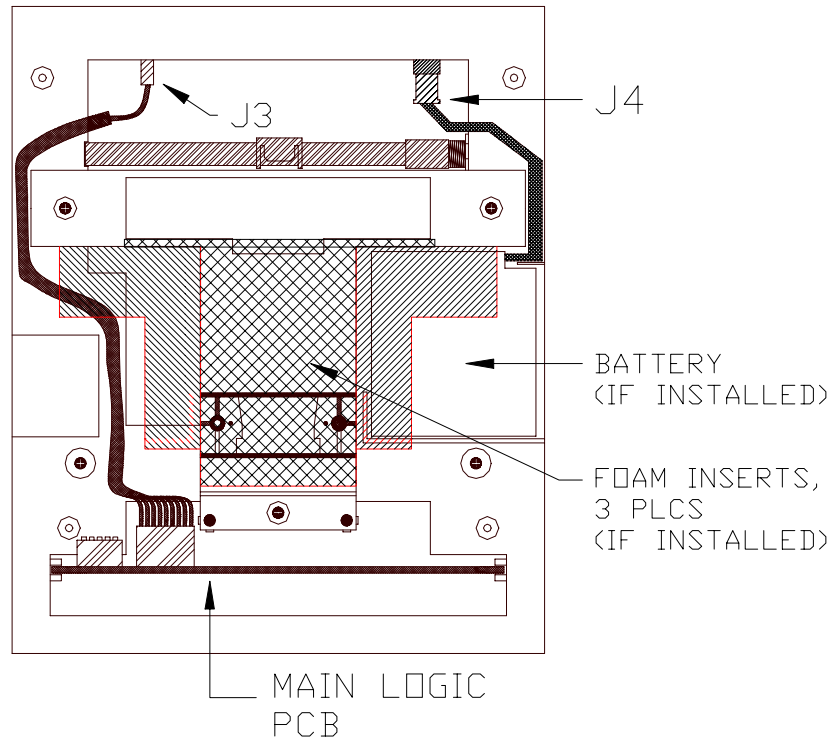

Figure 3.
7. If installed, remove and discard the three foam inserts placed over the camera assembly. See figure 3 on the following page.
8. Locate the cable that runs from the top panel PCB to the main logic PCB. Disconnect this cable from J9 on the Main Logic PCB. To remove the J9 connector depress the retaining clip on the connector and pull upwards. See figure 3 and 4 on the following page.
13. Locate the cable that runs from the top panel PCB to the main circuit board. Connect this cable to J9 on the main circuit board. Make sure the connector 'snaps' into J9. See figure 3.